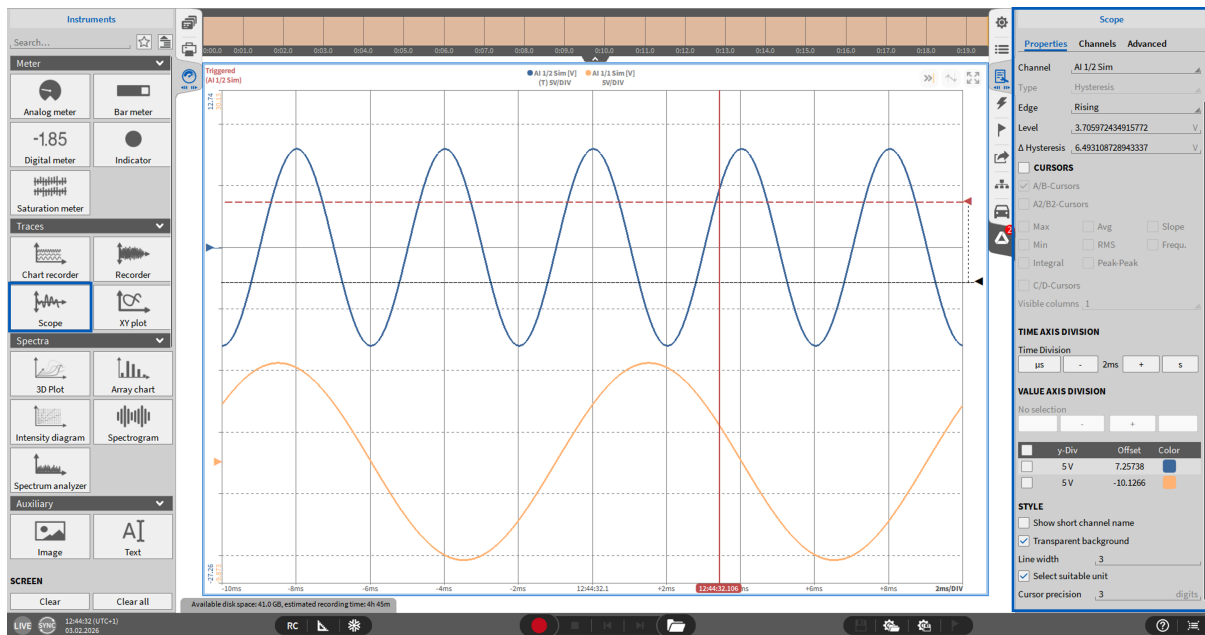
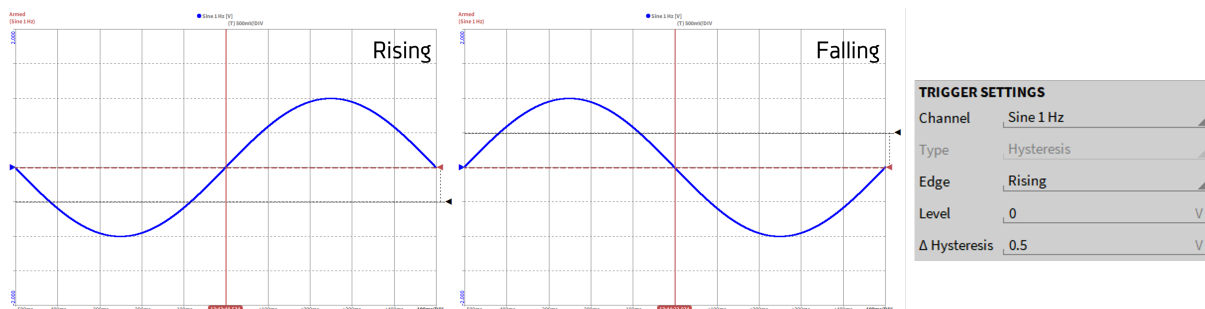

Fig. 8.37: Scope instrument – overview
Fig. 8.38: Trigger on a *Rising* (left) and on a *Falling* (right) edge
- In the *Edge* selection, the user can select if the selected signal shall be triggered on a *Rising* or on a *Falling* edge. The difference between the two modes is shown in Fig. 8.38 for a 1 Hz sine wave that has an amplitude of 1.
- In the *Level* selection, the user can define the level of the trigger. The level can also be set with the *Level* cursor (see Fig. 8.37) and must be within the signal range. Fig. 8.38 shows a 1 Hz sine
In the  $\Delta$  *Hysteresis* selection, the user can define a level the signal must pass before a new trigger event occurs. Setting a hysteresis level avoids unwanted trigger events that may occur caused by noise around the trigger level. The  $\Delta$  *Hysteresis* level can also be set with the *Hysteresis* cursor (see Fig. 8.37).
- **The Offset Cursors** (see Fig. 8.37) can be used to displace the displayed signals vertically. Using this function will not affect the phase accuracy.